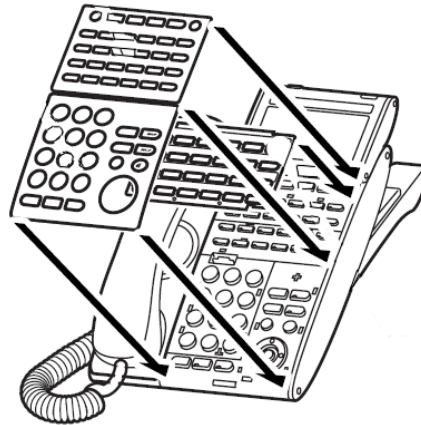

Figure 6-46 Install Plastic Panels
23. Reinstall both plastic panels to the front of the multiline terminal (refer to Figure 6-46 Install Plastic Panels on page 6-50).